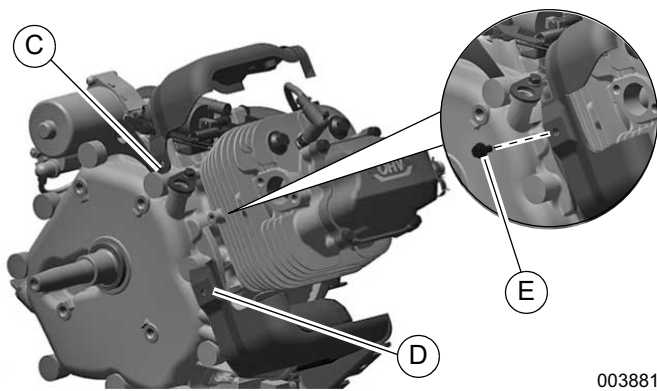

Figure 14-63. Install Wrappers
- See **Figure 14-63**. Position tab (C) on top wrapper beneath bump-out (D) on bottom wrapper as shown. Fasten wrappers to crankcase with one screw (E). Tighten screw to 6.6 ft-lbs (9.0 Nm).